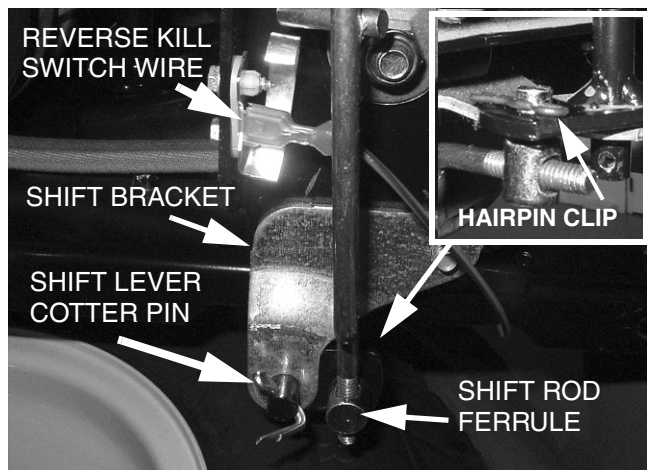

FIGURE 3
4. Refer to Figure 3 for Steps 4 and 5. From the underside of the rider, remove the cotter pin that secures the shift lever to the shift bracket. Remove the hairpin clip that secures the shift rod's adjustable ferrule to the shift lever, see Figure 3 Inset.